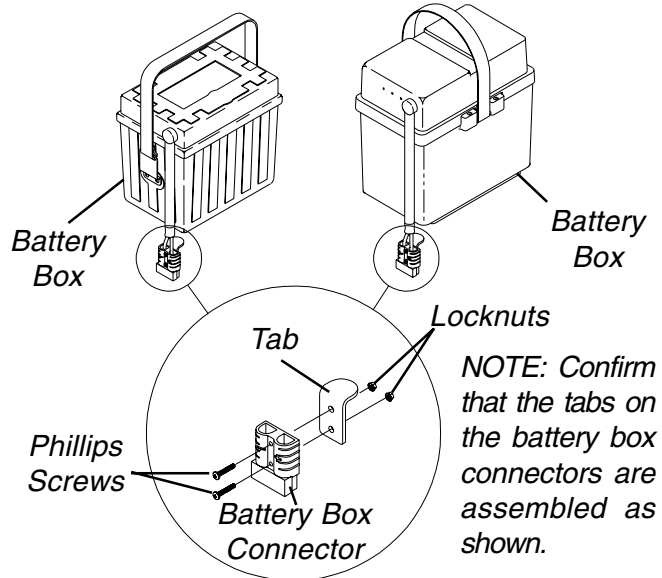

FIGURE 2 - BATTERY BOX CONNECTOR TABS
DISENGAGING/ENGAGING MOTORS WITH CLUTCHES (FIGURES 2 AND 3)
The tabs on the battery box connectors MUST be assembled as shown in FIGURE 2. Otherwise the connectors will not engage completely and clutch handles could disengage connectors.
1. Confirm that the tabs on the battery box connectors are assembled as shown in FIGURE 2.
NOTE: If tab on the battery box connectors is not assembled as shown in FIGURE 2, remove the phillips screws and locknuts to assemble the tab onto the connector correctly.